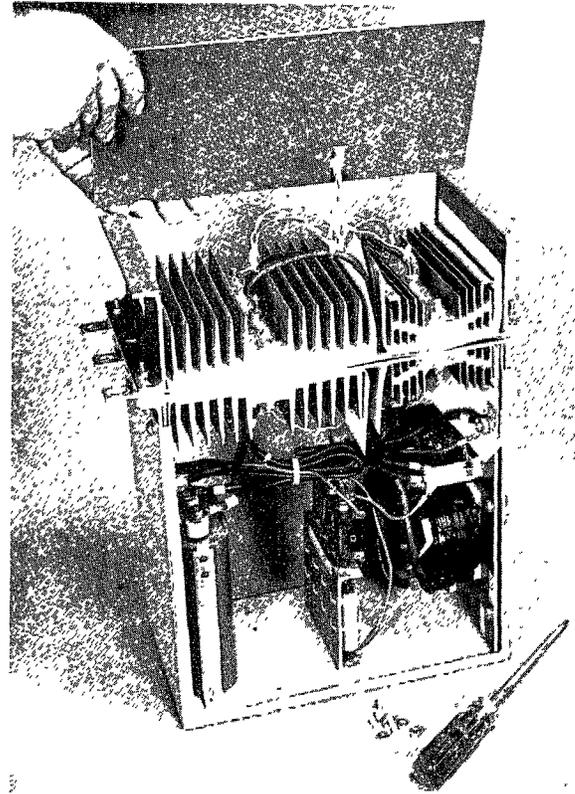

FIGURE 23
4. Remove four (4) machine screws and nuts that secure the front red plastic insulation cover to the inverter phase module
5. Fold back the cover, thereby, exposing the stud mounted SCR heatsinks. The remaining wire harnesses should support the front insulation cover while removing and replacing the defective stud mounted SCR cell. See Fig 23.
7. Remove the two (2) nuts that secure the heatsink with the defective stud mounted SCR cell to the phase module.
12. Replace the heatsink and the two (2) nuts that secure it to the phase module.
14. Re-install the insulation board which includes the pulse transformer card and bolt it in place with the four (4) machine screws and nuts.